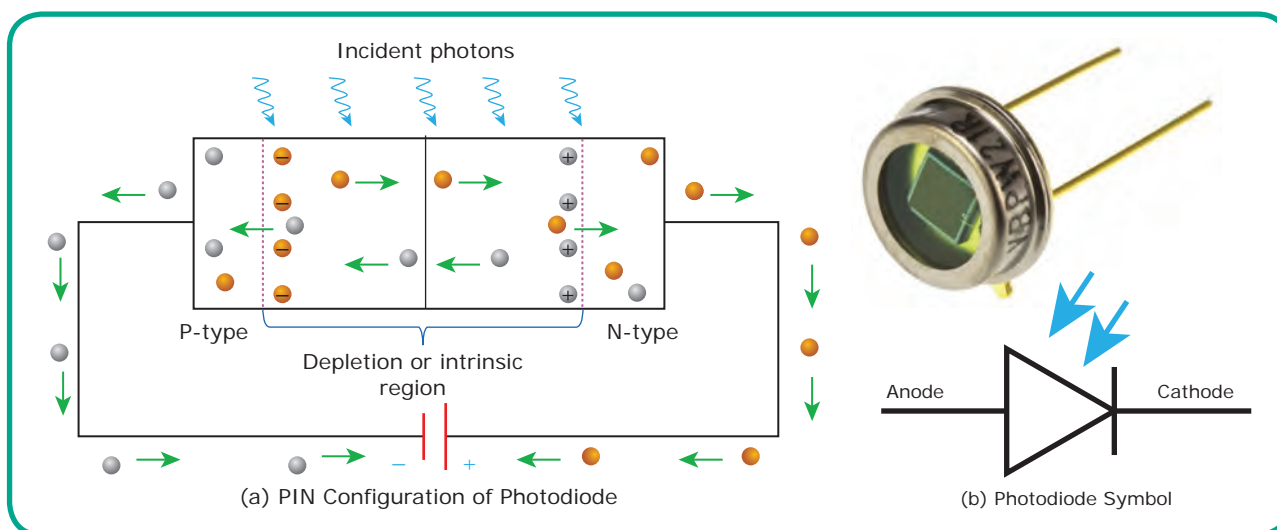

Figure 6.5 Construction and Symbol of Photo Diode
**Construction:** Figure 6.5 shows the construction and symbol of photo diode. The diode is made of a semiconductor PN